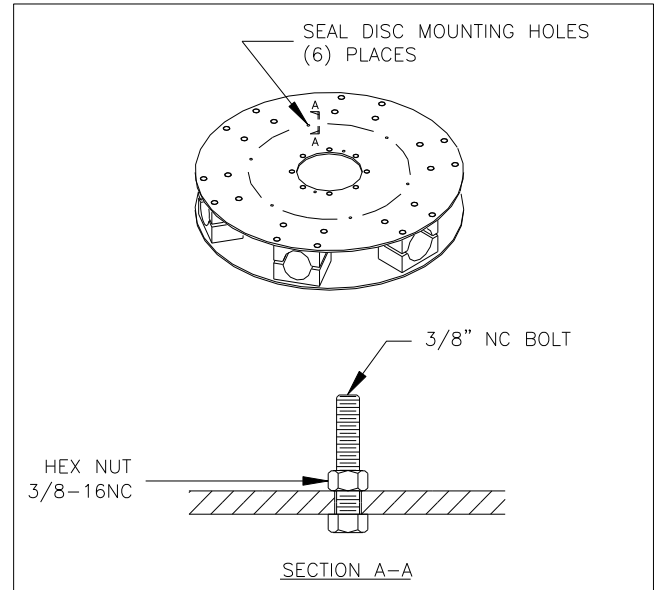

Figure 3
Install 3/8" NC bolts at six (6) places on top hub plate as shown in Figure 3. Threaded portion of bolts must be pointing up to mount seal disc. Install nut on each bolt. Tighten 3/8" NC nuts to 15 ft-lb (lubricated) and 20 ft-lb (dry).